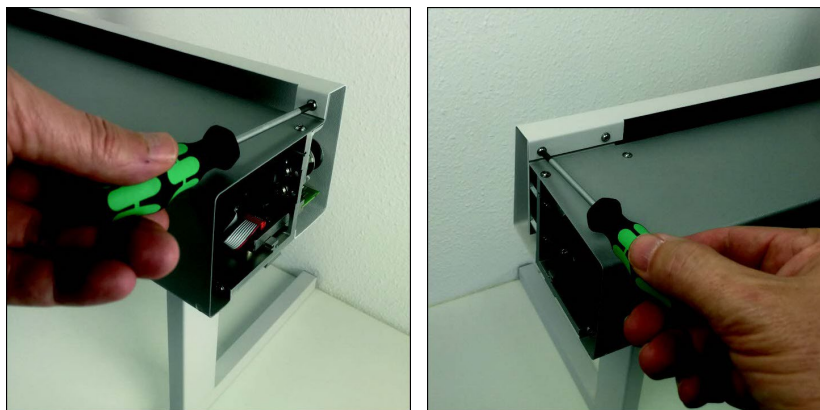

Figure 100: X-beam Front Cover Removal 3
4. Using a Torx Tx10 screwdriver, unscrew the X-beam front cover from the left and right sides, as show in Figure 100.